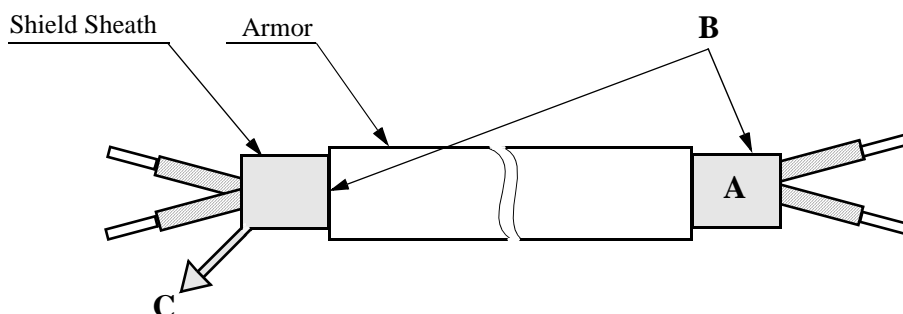

Fig. 3 Shielded Wire
2. Use twisted shielded wire to connect the communication signals. Prepare the wire as shown in Fig. 3 to prevent noise interference.
1. To prevent noise, use shielded wire as specified in Fig. 3. Separate from the power circuits (100VAC or greater).
2. Terminate shielded wire correctly (Refer to Fig. 3).